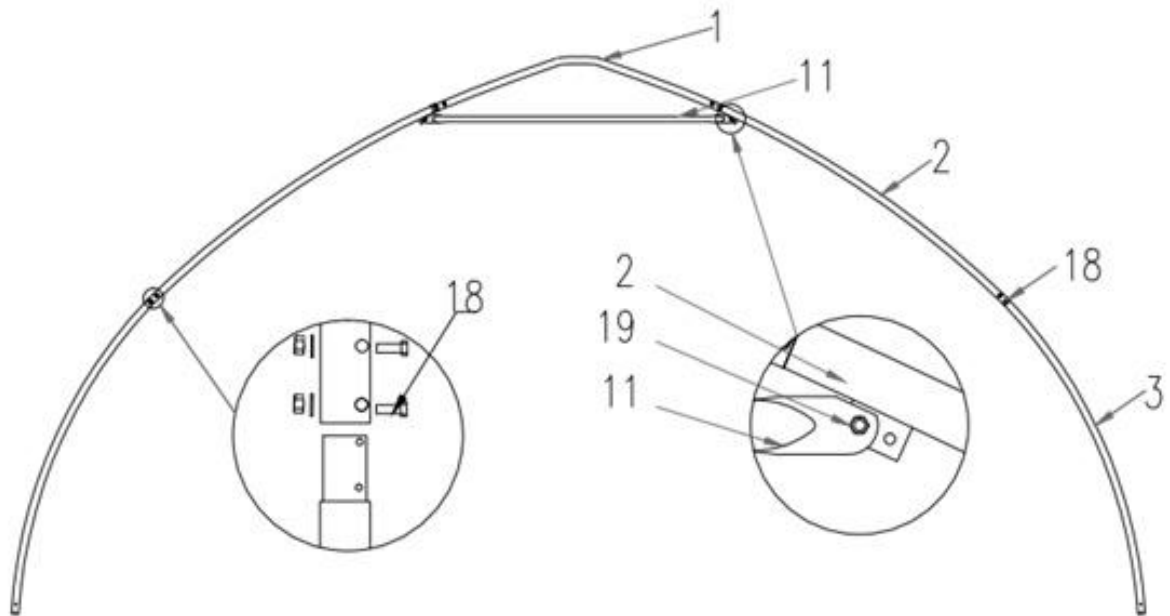

Figure 3
- The (11) middle trusses include the following parts. Connect all tubes with bolt (#18) (refer to figure 3).